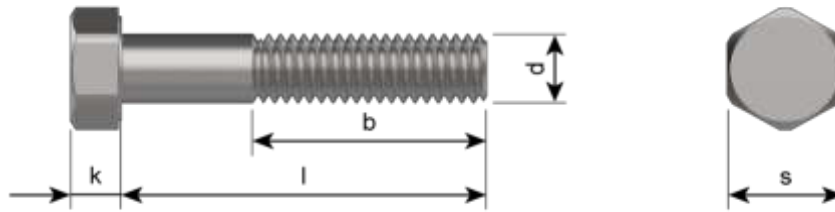
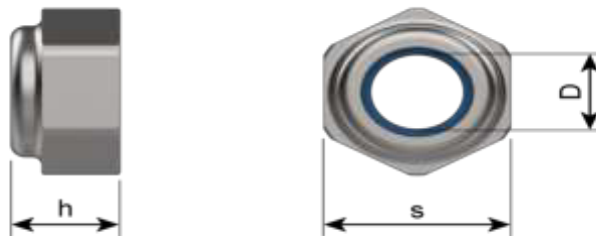

**FIGURE 2 – SAMPLE LADDER SIZES AND BRACKET LOCATIONS [dimensions in mm (m)]**
**FIGURE 3 – ONE-PIECE MOUNTING BRACKET**
**3.2.5 Mounting bracket:** Aluminum alloy, EN AW-6063 T66, EN 537-3, EN515 surface treatment, anodizing E6 15 micron natural, according to ISO 7599. The mounting bracket is used to secure the inner rail to building structure. One mounting bracket is located at either the first or second rung from the top of the section and at the last rung in the section with one additional bracket at least every fourth rung. See Figure 2 for additional details on locations for mounting brackets. See Figure 3 for additional mounting bracket details.
1See Figure 2 for locations of mounting brackets.